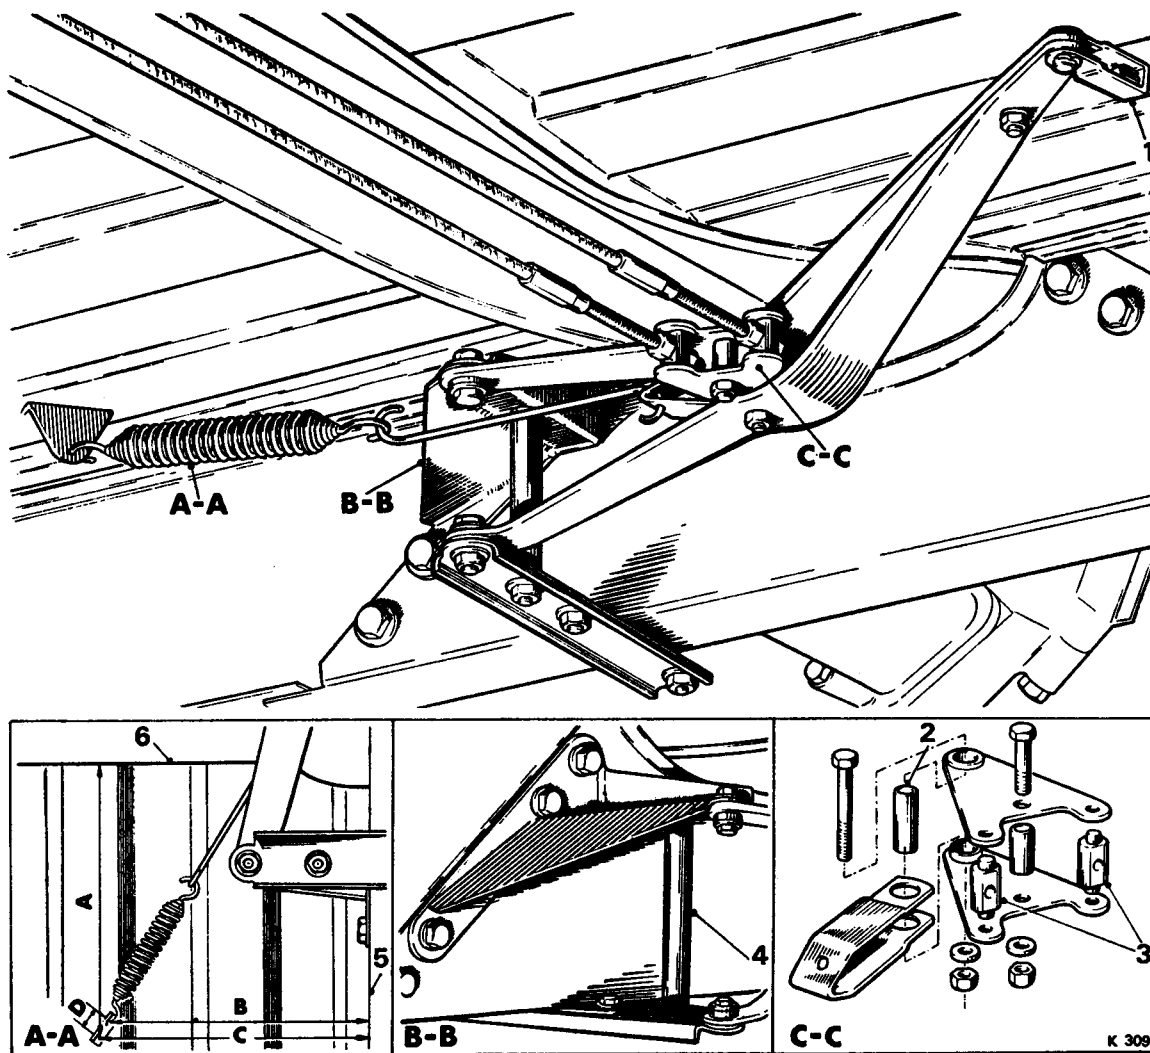

FIG. G64 HAND BRAKE CABLE CONVERSION (EARLY CARS)
The nut and bolt which clamps the outer end of the levers, the clevis pin, the return spring and the support bracket bolt (see Fig. G64, inset CC).
1. Assemble and fit the new operating lever to the car as shown in *Figure G64 and inset BB*, utilising the parts retained from the old lever. Ensure that during assembly all pivot points are lubricated with Molytone 265 grease. Also ensure that underseal is removed where necessary from the areas on the member which will accommodate the new lever.
2. Fit the return spring anchor plate to the new position (see Fig. G64, inset AA).